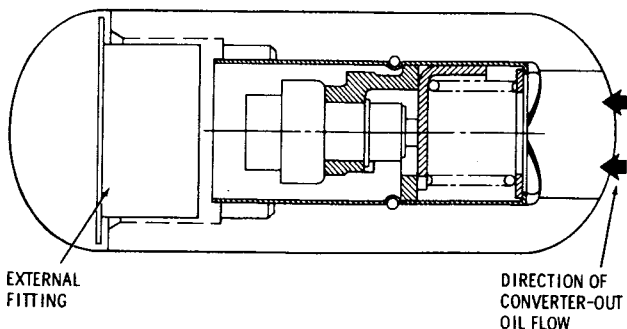

Fig. 6-8. Installation of thermostat assembly
(1) If plug 37 was removed, replace it. Tighten it to 33-37 lb ft (45-50 N·m). If plug 39 was removed, replace it. Tighten it to 23-27 lb ft (32-36 N·m). If dowel pins 41 were removed, install new dowel pins. Press the pins to a height of 0.430-0.450 inch (10.92-11.43 mm) above the housing splitline.
(2) If the transmission is equipped with an internal thermostat assembly, install lubrication bypass tube 30 into the rear face of converter housing 38. Install sealring 33 onto the thermostat and install thermostat assembly 32 into the converter housing, as shown in figure 6-8.
(3) If lubrication regulator valve 20 (foldout 7,B) was removed, install spring 19 and valve 20 onto guide pin 18. Install the assembled parts, pressing pin 18 into housing 38 to a depth of 0.000-0.010 inch (0.25 mm) below the housing splitline. Refer to the Note below step (4).
(4) If converter pressure regulator valve 23 was removed, install spring 22 (spring 22 must be light blue) and valve 23 onto guide pin 21. Install the assembled parts, pressing pin 21 to a height of 1.16-1.18 inches (29.4-29.9 mm) above the top of the valve.